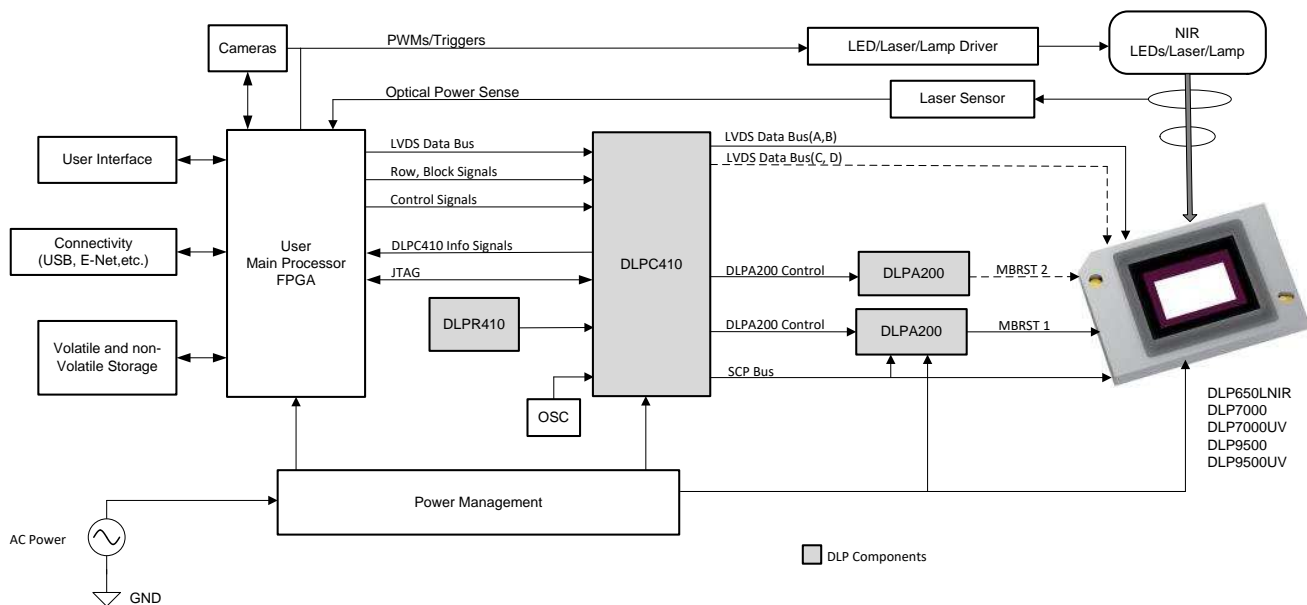

Figure 22. DLPC410 Application Example Block Diagram
A typical embedded system application using the DLPC410 controller is shown in 图 22. The DLPC410, the DMD, and their associated DLP components do not specifically determine the application in which the components are used - customer applications and use cases may vary widely, from Digital Image Lithography to 3D Printing to 3D Scanners using Structured Light. The DMD is capable of being used with multiple illumination source types, from Lasers and LEDs to wide band wavelength mercury halide lamps. The DLPC410 supported DMDs cover applications utilizing ultraviolet (UV), visible, and/or near-infrared (NIR) wavelengths. The duration of each binary pattern displayed on the DMD is totally under control of the Applications Processor. The displayed patterns could be strictly binary patterns or could be bit weight exposures of varying durations representing
In Figure 22, the MBRST 2 signals and the C, D LVDS Data buses are shown with dashed lines to indicate that some DMDs do not require these signals to be used. TI's Reference Design and Evaluation Modules leverage a DLPC410 Controller Board which supports all 5 of the DLPC410 supported DMDs. The performance differences for each application are determined by which DMD Board is plugged into the Controller Board. This provides a single DLPC410 design platform which can then be used for multiple customer SKUs within an application platform for product segmentation purposes.